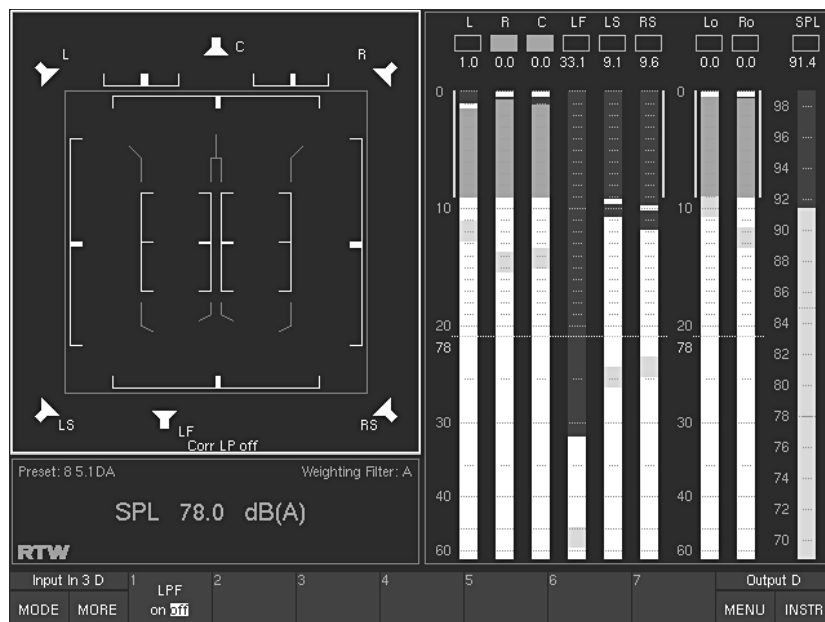
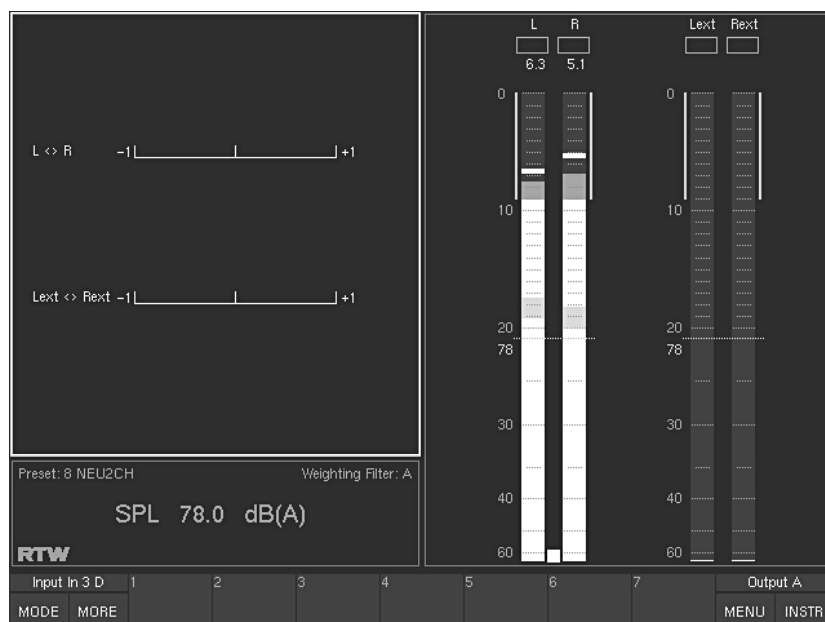

Fig. 3-8: Screen display with COR instrument in Surround mode selected
Fig. 3-9: Screen display with COR instrument in 2 Channel Stereo mode selected
See Fig. 3-8
In Surround mode the channel pairs of the surround channel combinations are displayed (see Fig. 3-8).
See Fig. 3-9
In 2 Channel Stereo mode channel pair L and R is displayed, also channel pair  $L_{ext}$  and  $R_{ext}$  when enabled (see Fig. 3-9).
(Button/key 1, see Fig. 3-8, compare with Fig. 3-9)